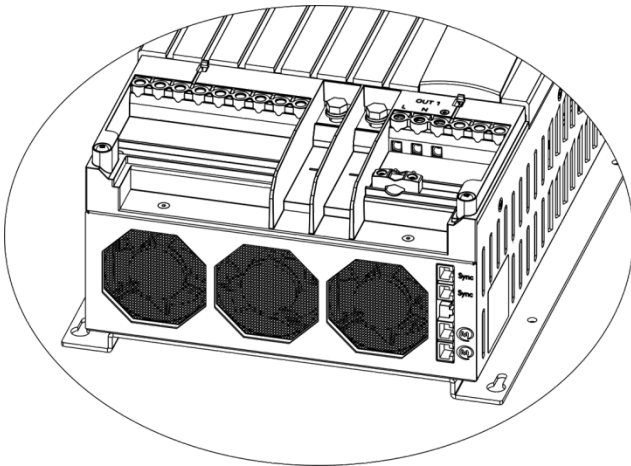

Figure 4-5.2: Front lid removed
- 2 Lift the front cover plate from the cabinet. See figure 4-5.2.